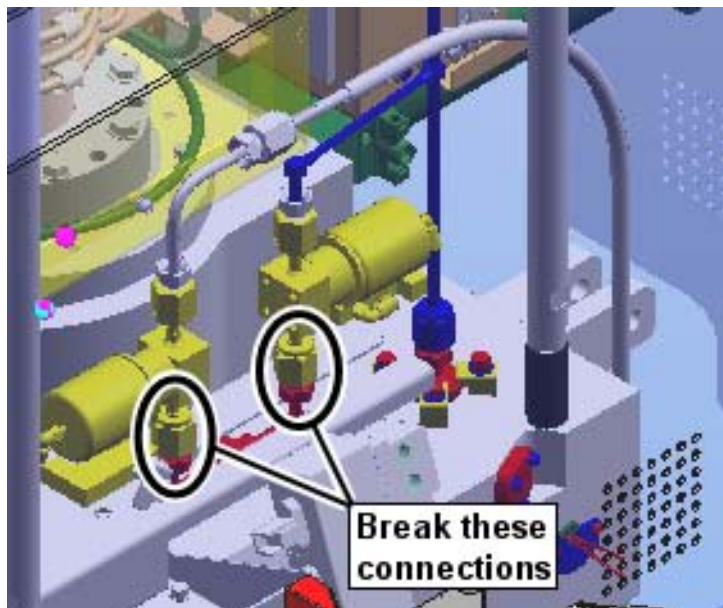

Figure 5-2 Precursor line connections at the process chamber
- Undo the precursor delivery lines at the process chamber and hinge back the process chamber lid (see Figure 5-2).